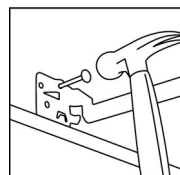

Fig. 5
4. Extend hanger bars to fit between joists. Bar hanger foot is contoured to easily align with bottom of joist. Position fixture by hammering nails into joists (Fig. 5).